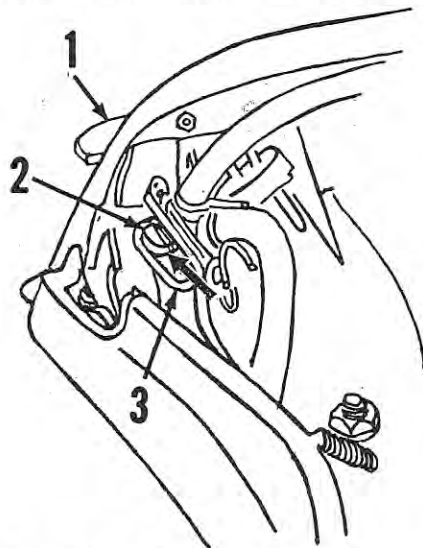

Fig. Mc46—On early Fishing Scott models the fuel system bleeder valve is operated by the choke knob as shown. See text for details.
Tillotson Model HC: On models equipped with the diaphragm type carburetor, it is necessary to bleed the fuel system prior to starting the motor. On early motors to bleed the fuel system, depress the choke button and squeeze the primer bulb located in fuel line until a solid stream of fuel is discharged from starboard side of motor. On late motors, the bleed valve is opened by turning the speed control grip fully clockwise until the "VENT" marking is aligned with arrow, then squeeze the primer bulb. On all models, maintain pressure on the primer bulb until the bleed valve is closed. On early models the bleed valve may be adjusted as follows: Refer to Fig. Mc46. Loosen screw (2). Fully depress choke button (1) and move bleed valve (3) in direction of arrow as far as possible then tighten screw (2). When choke button is released, there should be no contact between the stop on choke rod and stem on bleed valve. If there is, move bleed valve just slightly in opposite direction until clearance exists.